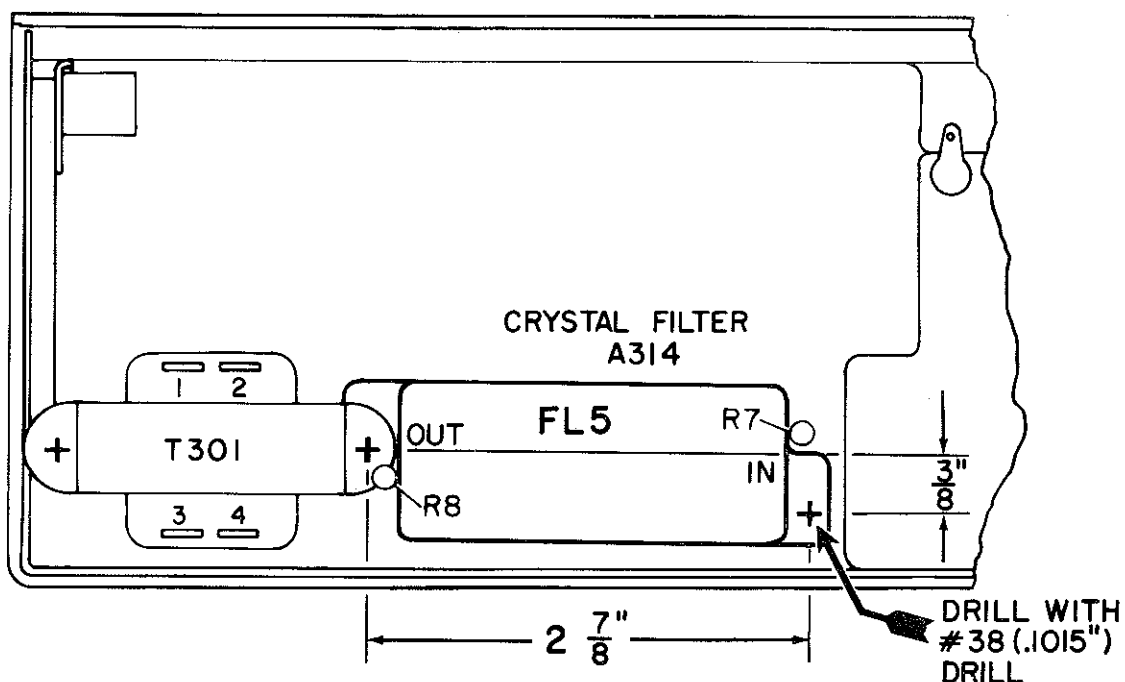

Figure 3 - Installation of New Single-Unit Crystal Filter
3. If a mounting hole is not already present, drill a hole for the new filter at the point indicated in Figure 3. Using a #4-40 x 1/4" self-tapping screw, mount one end of the filter at this point. Mount the other end under the mounting screw of T301.